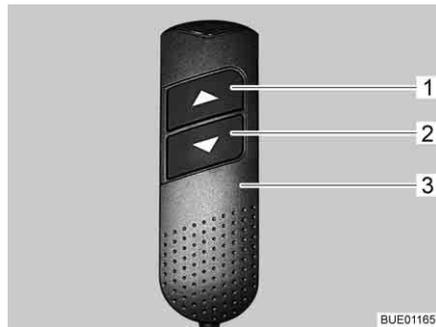

Fig. 110 Manual control unit
- On the manual control unit (Fig. 110,3) push the "▼" button (Fig. 110,2) and keep it pressed. The foot section is retracted. The head sections are raised.
- On the manual control unit (Fig. 110,3) push the "▲" button (Fig. 110,1) and keep it pressed. The foot section is extended. The head sections are lowered.
- On the manual control unit (Fig. 110,3), press the "▼" button (Fig. 110,2) or "▲" button (Fig. 110,1) until the desired position is reached.